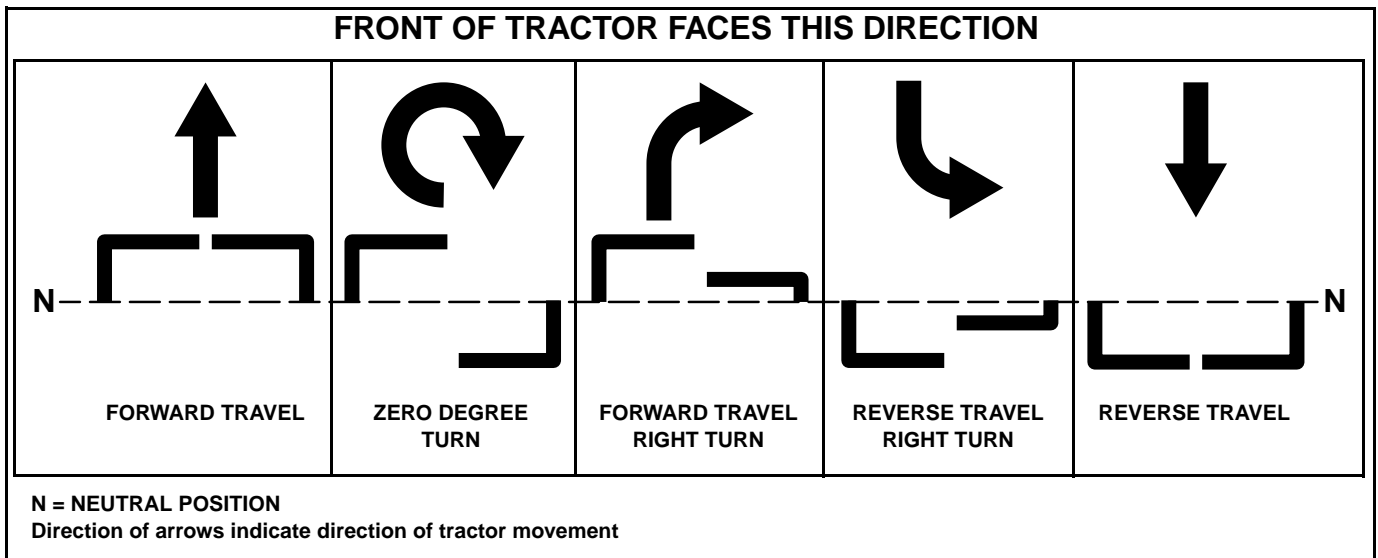

Figure 3-6
**To go forward,** push steering control levers forward an equal distance (Fig. 3-6).
**To go in reverse,** pull steering control levers rearward an equal distance (Fig. 3-6).
**To turn left,** move the right steering control lever farther forward from neutral than the left steering control lever.(Fig. 3-6)
**To turn right,** move the left steering control lever farther forward from neutral than the right steering control lever. (Fig. 3-6)
“0” degree turn, move one steering control lever forward and the other steering control lever back of neutral. This will allow the drive wheels to counter-rotate. (Fig. 3-6)